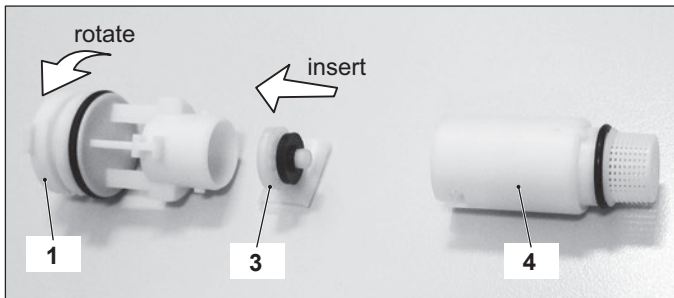

Figure 14.5
- 3 To remove the body 4 with the filter from the flow switch group rotate the flow switch plug 1 (Figure 14.5).
- 2 Rotate the flow switch plug 1 to separate it from the body 4 (Figure 14.5).
- 1 Insert the flow limiter 3 as shown in Figure 14.5.